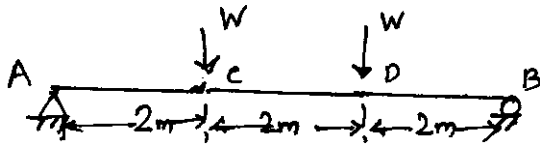

Fig 3
16. (a) A rectangular section 200mm wide and 400mm deep is used as beam of span 6m for the loading shown in figure. 3. Find the maximum value of 'W' if the permissible stress is 50 MPa. (6)